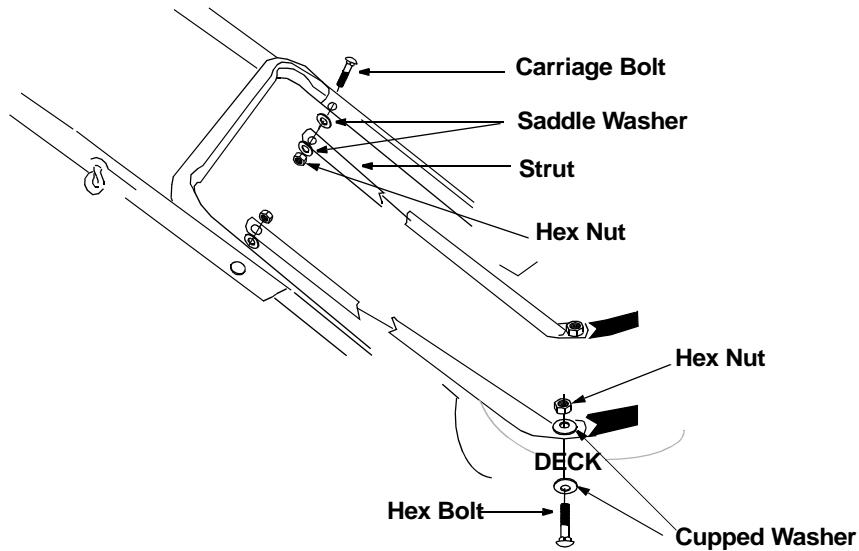

Figure 7
- Place the saddle washers over the carriage bolts on the handle aligning the curved side of the bolts against the contour of the handle. See Figure 7.
- Place struts over the carriage bolts. Secure loosely with lock washers and hex nuts. See Figure 7.
- Attach the other end of the struts as follows. Place one cupped washer over each hex bolt aligning the crowned side of the washer against the head of the bolt. Insert hex bolts up through the middle holes in deck beside the engine and then through the struts. Secure with cupped washers (crowned side against strut) and hex nuts. See Figure 7. Tighten all hardware at both ends of the strut.